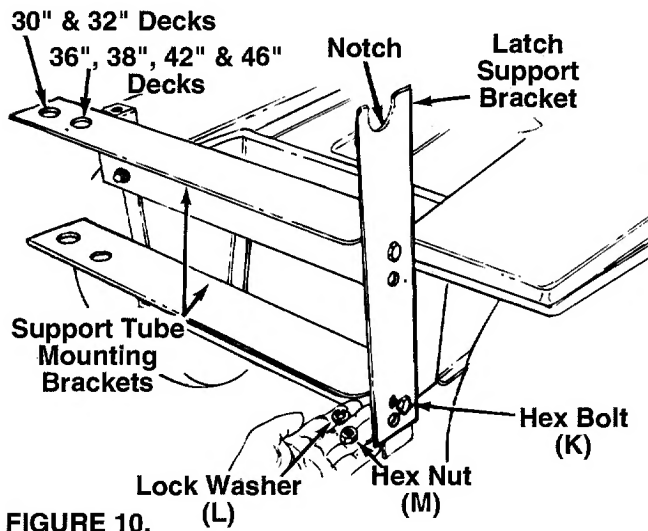
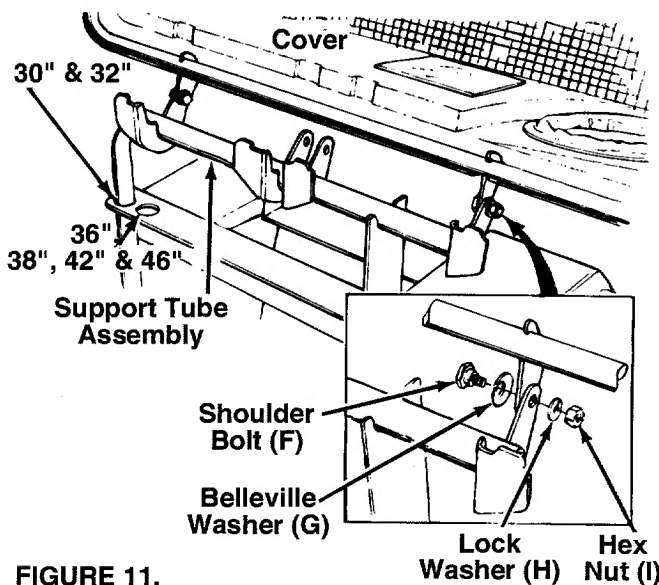

FIGURE 10.
FIGURE 11.
3. Assemble the latch support bracket to the right side of the support tube mounting brackets using the **upper** set of holes in the latch support bracket as shown in figure 10. Assemble so the notch in the top of the latch support bracket is toward the rear of the unit. Secure with two hex bolts (K), lock washers (L) and hex nuts (M).
- Place the support tube assembly in position on the rear of unit by sliding the support tube down through the holes in the left side of tube mounting brackets. Use the inside hole for 36", 38", 42" and 46" decks. Use the outside hole for 30" and 32" decks. See figures 10 and 11.
- Place belleville washers (G) on shoulder bolts (F) so that the crowned side of the washers is against the head of the shoulder bolt.
- Place the cover in position against the brackets on the support tube assembly as shown in figure 11. (Allow the cover to rest on the seat of the lawn tractor for ease of assembly.) Line up the holes in the hinges of the cover with the holes in the support tube.
- Insert the shoulder bolts (with washers attached) through the hinges on the cover and the support tube assembly. Heads of the shoulder bolts go toward the inside of the unit. Secure with lock washers (H) and hex nuts (I). Do not overtighten. Cover must be able to pivot on the support tube.